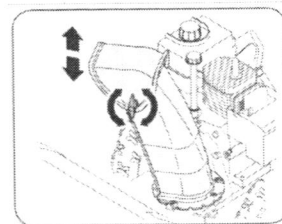

Figure28
2. Pivot the chute upward or downward before retightening the wing knob, See Figure 28.